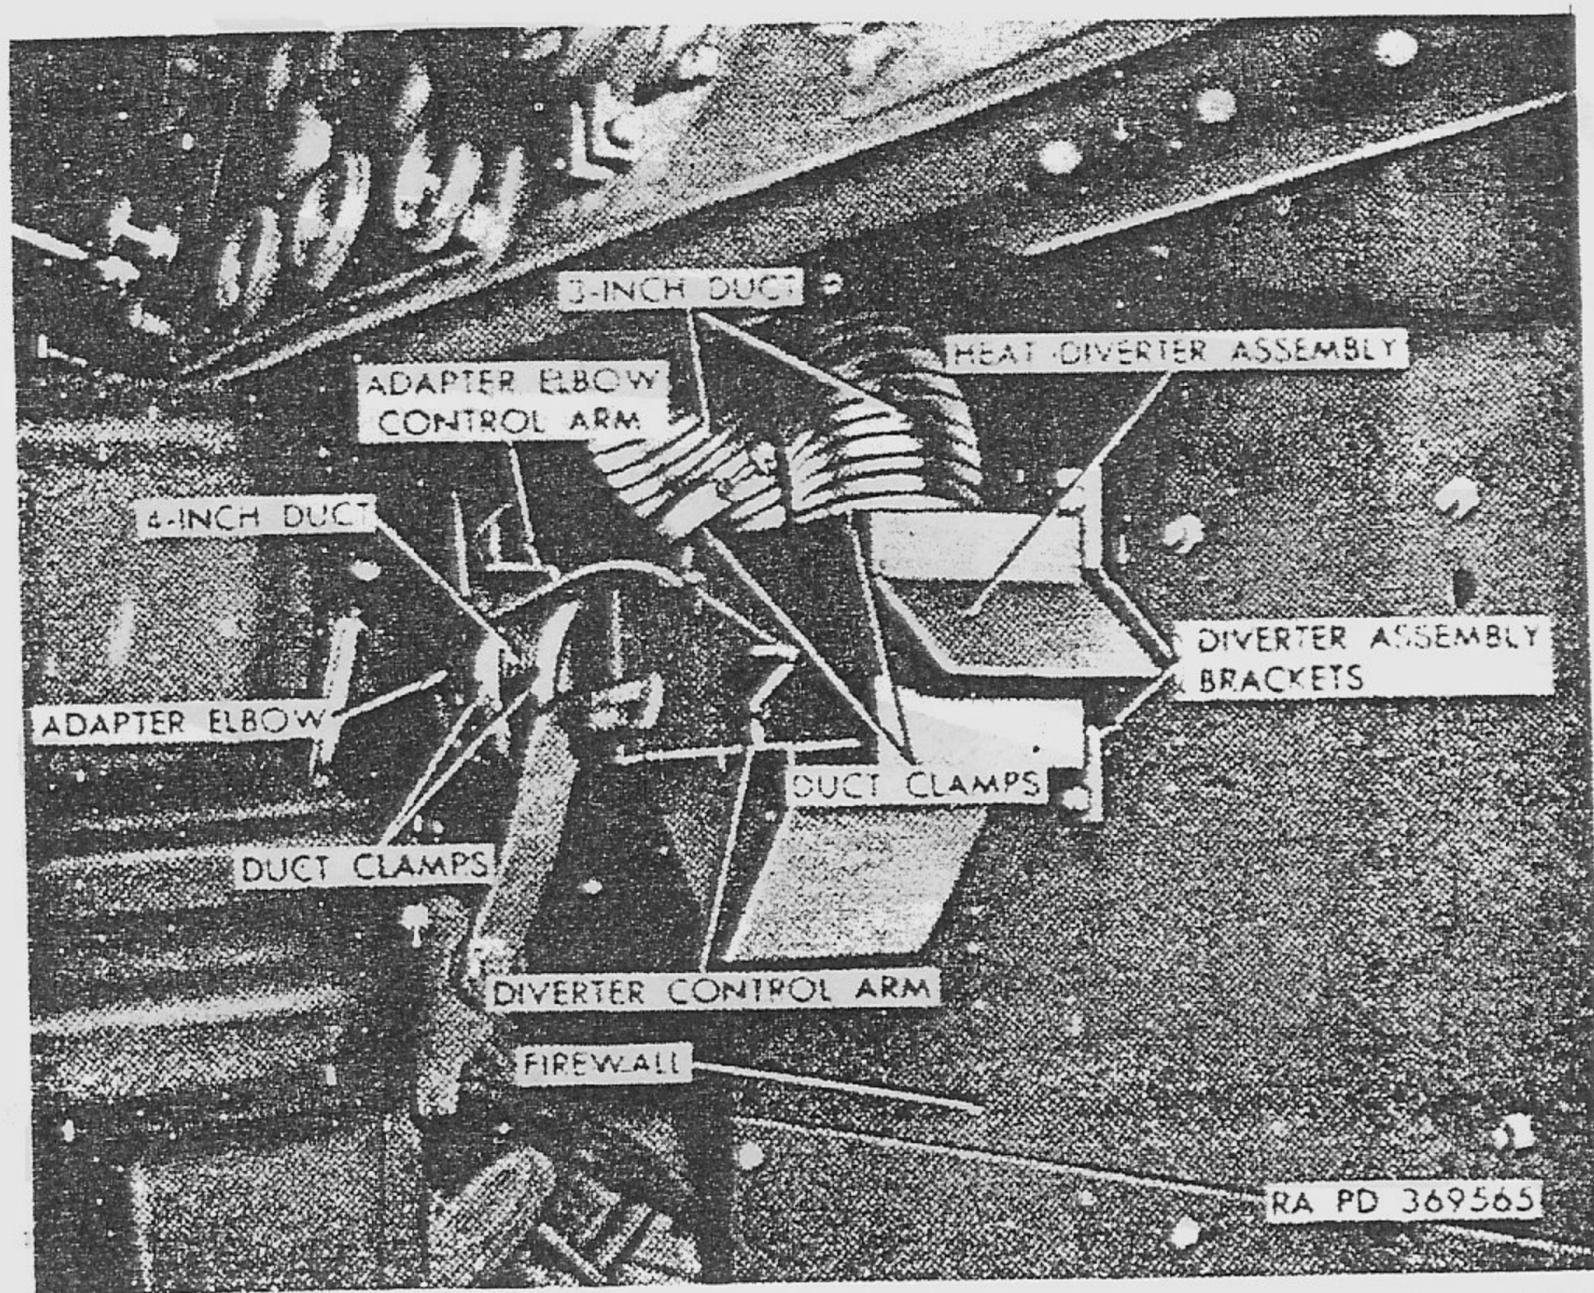

Figure 11. Installation of diverter assembly and duct.
6. Heat Diverter Assembly. *a.* Position 4-inch duct (F, fig. 1) on adapter elbow (fig. 11) and secure with duct clamp (L, fig. 1 and fig. 11). Attach diverter assembly to other end of 4-inch duct and secure with duct clamp (L, fig. 1 and fig. 11). Aline heat diverter assembly (M, fig. 1 and fig. 11) with four existing holes in firewall and attach diverter assembly brackets to firewall as shown in figure 11. Use four $\frac{1}{4}$ -20 x $\frac{3}{4}$ cap screws 121887, hex nuts 120375, and internal-external-teeth lockwashers 174916 to secure brackets.
b. Attach one 24-inch length of 3-inch duct (D, fig. 1) to left outlet collar and the other 24-inch length to the right outlet collar on the heat diverter assembly (fig. 11). Secure both lengths of duct to the diverter collars with duct clamps (L, fig. 1 and fig. 11). Connect the duct from the left collar to the right inlet of the built-in air chamber under the windshield and connect the duct from the right collar to the left inlet of air chamber. The two ducts will
c. Remove the two plugs from the instrument panel below the vehicle instruction plate. These holes are provided for the heater control cables. Mount the "Defroster" name plate (LL, fig. 1) under the right control knob and the "Air" name plate (MM, fig. 1) under the left control knob of the two heat control cables (K, fig. 1). Insert the cables in the holes. Connect the "Air" control cable to the adapter elbow control arm (fig. 11). Clamp the "Air" control cable in position, with the "Air" control knob in and the butterfly valve of the adapter elbow in "fully closed" position. Connect the "Defroster" control cable to the diverter control arm (fig. 11) and clamp in position, with diverter control arm to extreme right.